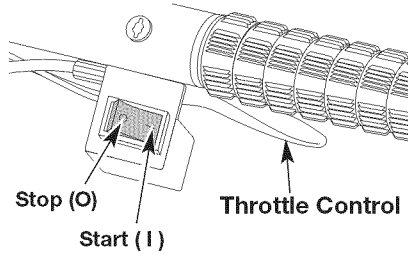

Fig. 6
NOTE: There is no need to turn the unit on. The On/Off Stop Control is in the ON (I) position at all times (Fig. 6).
2. Press and hold On/Off Stop Control in the OFF (O) position until engine comes to a complete stop (Fig. 6).